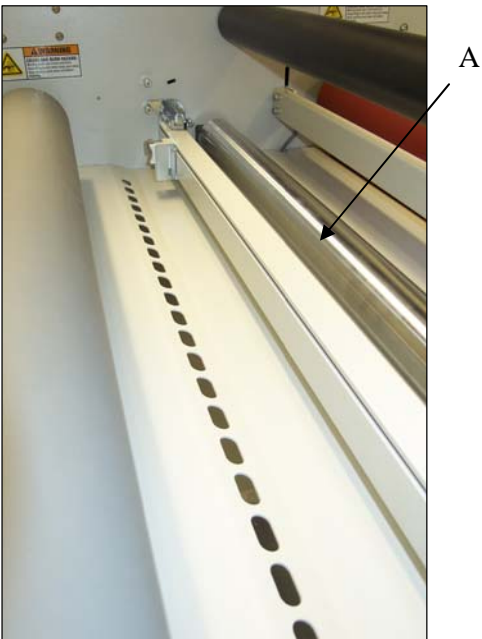

Figure 6
**Removable Chill Idler: (Fig. 6 – Item A)**